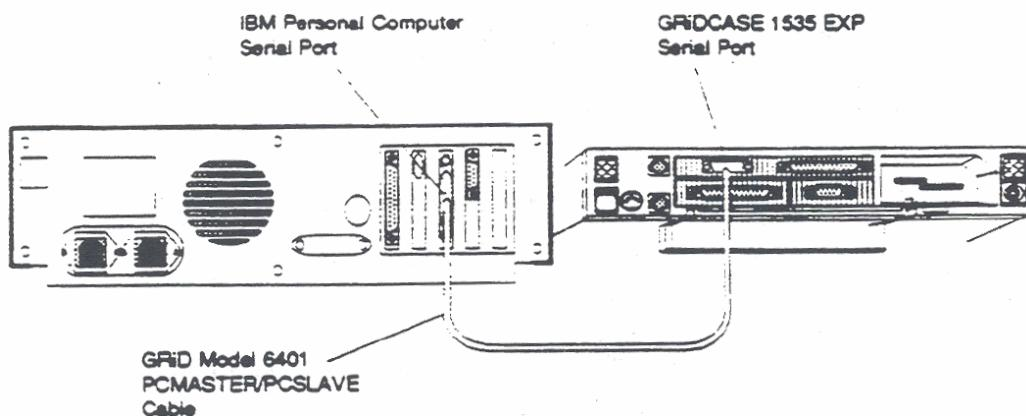

Figure 10-5. PCMASTER/PCSLAVE Cable Connection
2. Connect the serial ports of the two computers using the GRiD Model 6401 cable or your own null modem cable as shown in Figure 10-5.